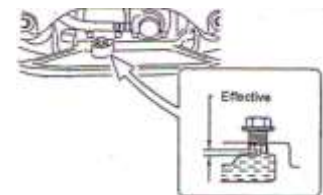

Figure 1
5. Remove the oil plug in the exciter base and check the oil level. Make sure the compactor is level when checking. The oil level should be up to the oil plug. Every month or every 200 hours of operation, replace the oil. (Fig.1)